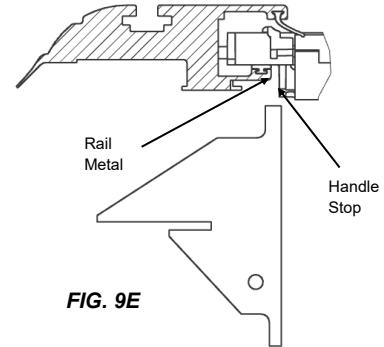

FIG. 9E
Now tighten your clamp turn knobs hand tight. Finally, check for proper spacing by measuring between the rails by attempting to insert the BR Gauge in between the rail metal and the handle stop (FIG 9E). You can also check the between the rail measurement at the canister and the tailgate end of the rails. The measurements should be equal to or less than those in Figure 9C. The Clamp Extensions have been pre-installed with brackets and shims to achieve the proper Between the Rail dimension (BR) when placed on an average factory truck bed. However, not all truck beds are average dimensionally and some have optional plastic caps or over the rail spray-in liners.